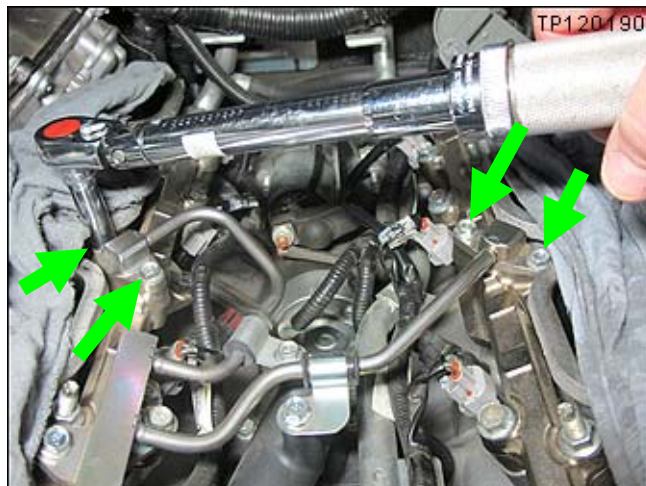

Figure 15
22. Torque the bolts shown in Figure 15: